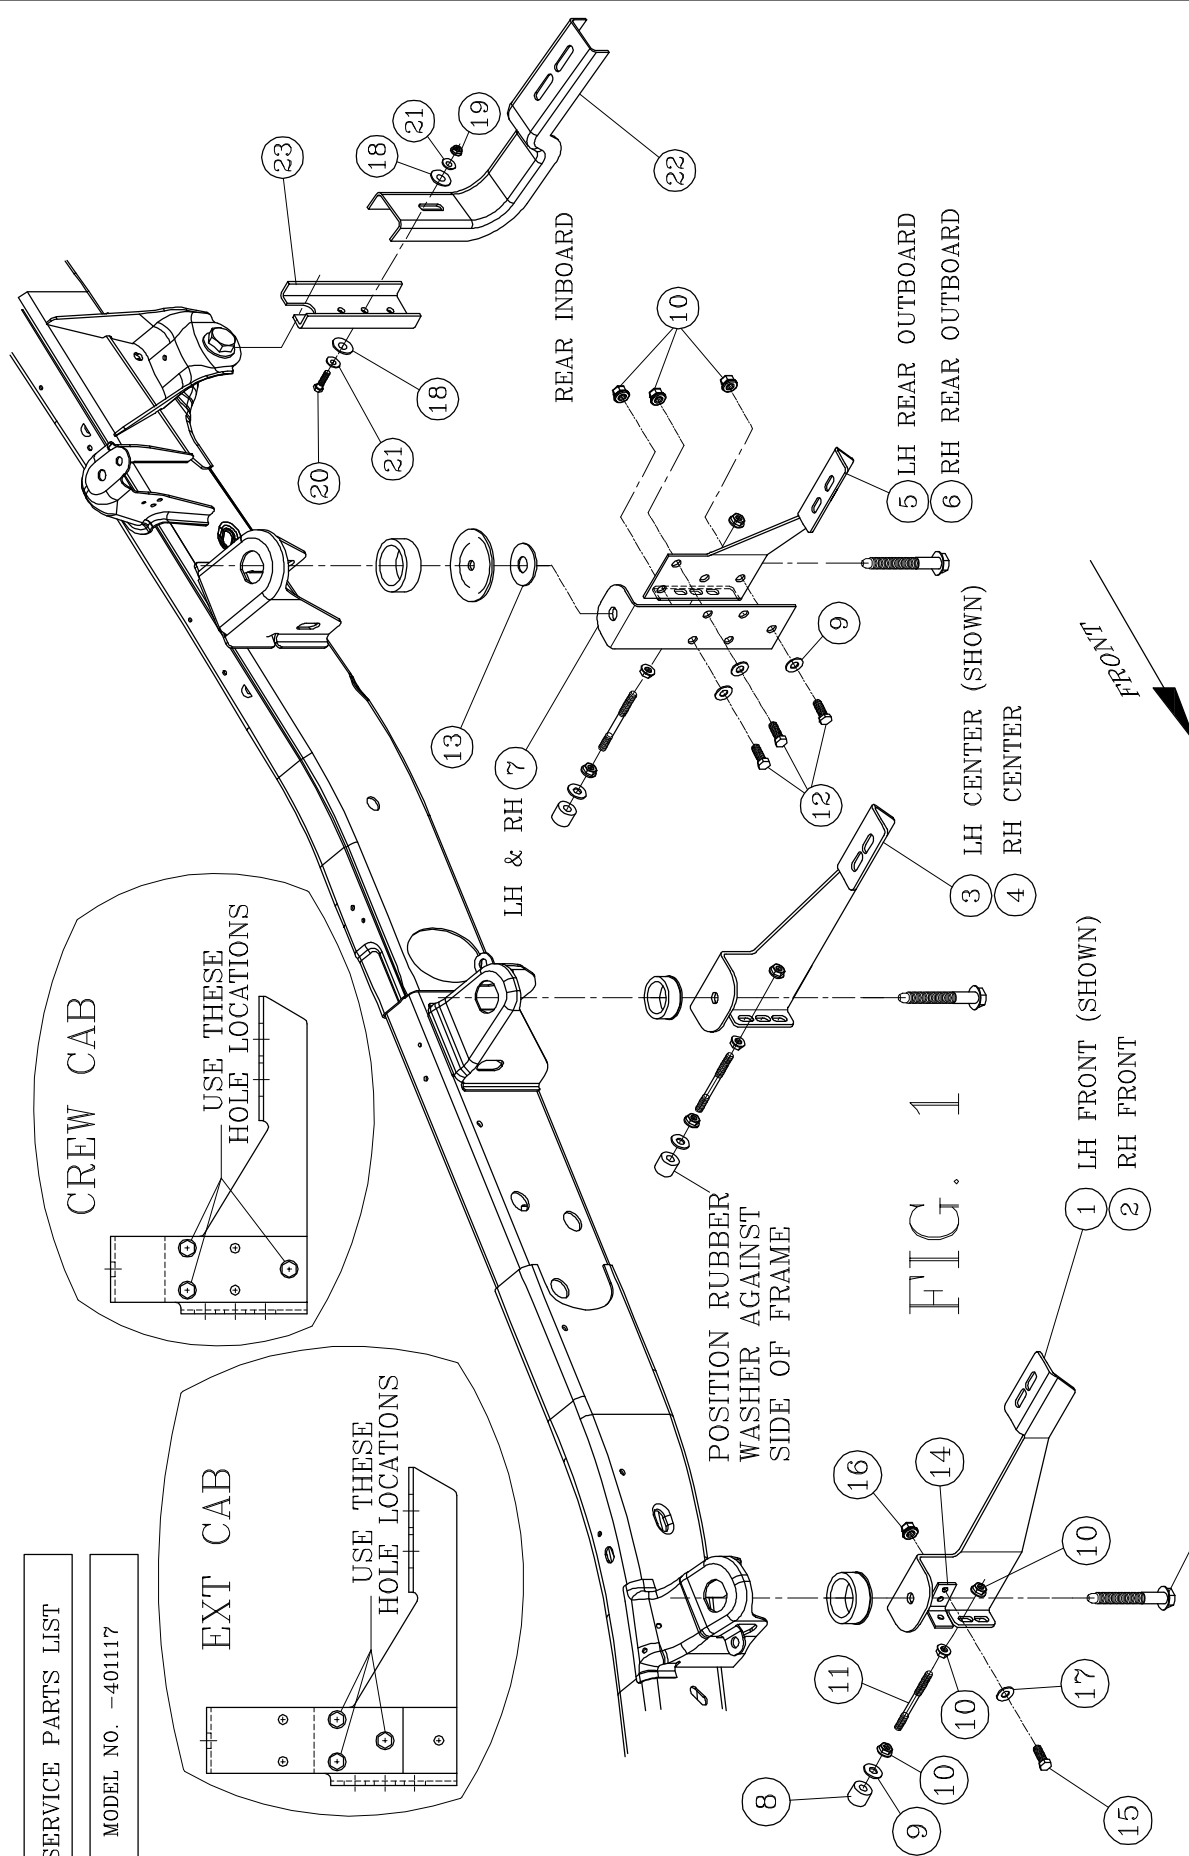

FIG. 1
**NOTE: IF YOU ARE MOUNTING THE STEPS ON A 1500 MODEL PICKUP, YOU MUST ATTACH BRACKET (ITEM #14) TO BRACKETS (ITEM #1 & 2) (SEE FIG 1.) IN ORDER TO USE THE LOAD REACTION STUD.**
4.3.1. ATTACH THE REAR OUTBOARD CAB MTG BRKT (ITEM #5 & #6) TO THE REAR INBOARD CAB MTG BRKT (ITEM #7), WITH THE 3/8" BLACK ZINC PLATED BOLTS (ITEM # 12), WASHERS (ITEM #9) AND SERRATED FLANGE NUTS (ITEM # 10). THE REAR OUTBOARD CAB MTG BRKT MUST BE MOUNTED TO THE BACK SIDE OF THE REAR INBOARD CAB MTG BRKT (TOWARDS THE REAR OF THE VEHICLE) AS SHOWN. BE SURE TO USE THE BOTTOM SINGLE HOLE AND BOTTOM DOUBLE HOLES IN THE REAR INBOARD CAB MTG BRKT (SEE FIG 1). PUT THE BOLTS THROUGH THE FRONT SIDE OF THE BRACKET SO THE FLANGE NUTS ARE ON THE BACK SIDE TO ALLOW CLEARANCE FOR THE FRAME OF THE TRUCK. TORQUE THE BOLTS TO 19 LB. FT.
- 4.3.2. INSTALL THE REAR OUTBOARD CAB MTG BRKT (ITEM #5 & #6) TO THE REAR INBOARD CAB MTG BRKT (ITEM #7), WITH THE 3/8" BLACK ZINC PLATED BOLTS (ITEM # 12), WASHERS (ITEM #9) AND SERRATED FLANGE NUTS (ITEM # 12). THE REAR OUTBOARD CAB MTG BRKT MUST BE MOUNTED TO THE BACK SIDE OF THE REAR INBOARD CAB MTG BRKT (TOWARDS THE REAR OF THE VEHICLE) AS SHOWN. BE SURE TO USE THE BOTTOM SINGLE HOLE AND TOP DOUBLE HOLES IN THE REAR INBOARD CAB MTG BRKT (SEE FIG 1). PUT THE BOLTS THROUGH THE FRONT SIDE OF THE BRACKET SO THE FLANGE NUTS ARE ON THE BACK SIDE TO ALLOW CLEARANCE FOR THE FRAME OF THE TRUCK. TORQUE THE BOLTS TO 19 LB. FT.